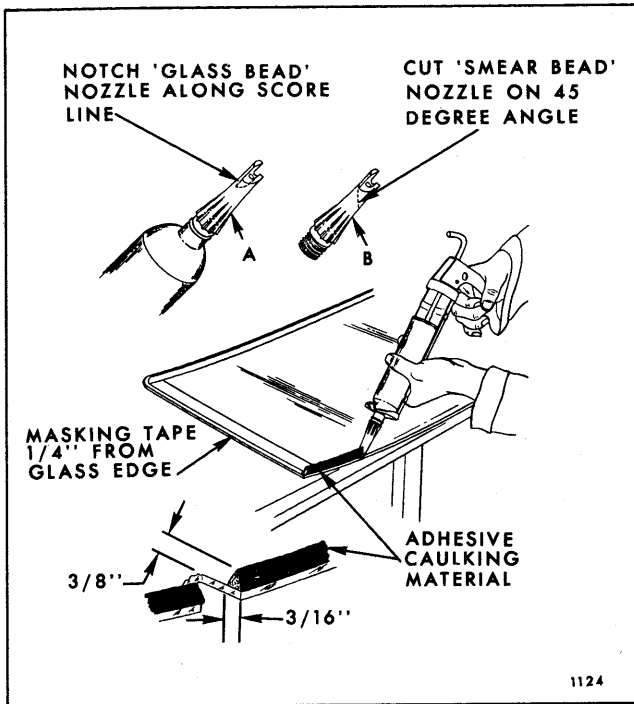

Fig. 1-4—Adhesive Glass Installation Extended Method
- If extended method is required, cut off tip of one nozzle along score line (Fig. 1-4). This glass bead nozzle will be used to apply bead of adhesive caulking material to glass. Cut tip off other nozzle at 45° angle 1" below end of nozzle (Fig. 1-4). This nozzle will be used to apply "smear bead" of adhesive caulking material to pinchweld flange.
- Positioning the gun and nozzle as shown in Figure 1-4, carefully apply a smooth continuous bead of caulking material 3/8" high by 3/16" wide at base completely around inside edge of glass. When material in first tube is dispensed, quickly insert second tube and continue application of bead. After application, check bead and fill all voids and air bubbles.